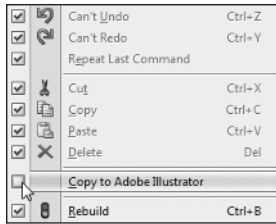

FIGURE 1.26 Adding a menu item
3. Clear the check box next to items to hide them. Select the check box next to an item to show it in the menu, as shown in Figure 1.26.